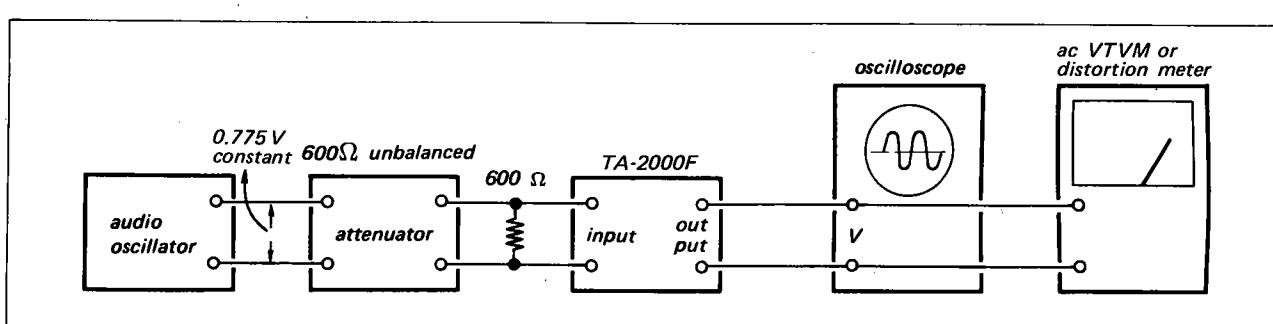

Fig. 3-4. Level check test setup
1. With the equipment connected as shown in Fig. 3-4, feed a 1 kHz signal to the input jack. Adjust the attenuator to obtain a 1 volt reading on the ac VTVM. Note that the audio oscillator's output should always be kept at 0.775 volts (0 dB).
- With the equipment connected as shown in Fig. 3-4, feed a 1 kHz to the TUNER input jack. Adjust the attenuator to obtain a 1 volt reading on the ac VTVM.
- With the equipment connected as shown in Fig. 3-4, feed in the signal specified in Table 3-3 and then adjust the VOLUME control to obtain a 1 volt (r.m.s.) output.
- With the equipment connected as shown in Fig. 3-4, feed a 1 kHz signal to the input jack. Vary the attenuator to obtain a 1 volt reading on the ac VTVM.
1. With the equipment connected as shown in Fig. 3-4, feed a 1 kHz signal to the TUNER input jack. Vary the attenuator to obtain a 1 volt reading on the ac VTVM.